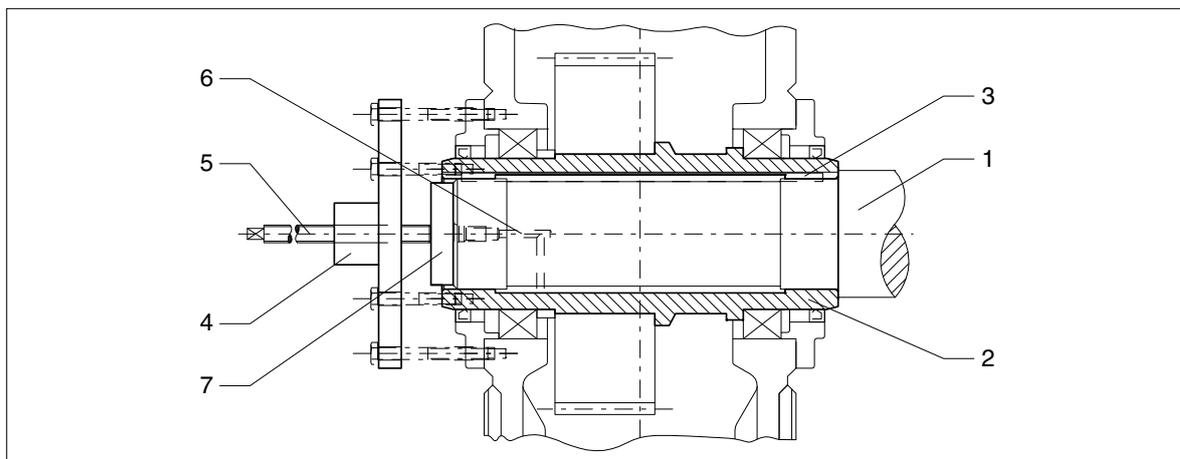

Fig. 34: Hollow shaft with parallel keyway, demounting with hydraulic lifting unit
- When the rust-releasing agent has taken effect, pull the gear unit off with the device (see figures 34 and 35).
If the support is provided not only by the hollow shaft, but also by the housing, as shown in figure 34, the forces used must not exceed the values given in the following table 14.